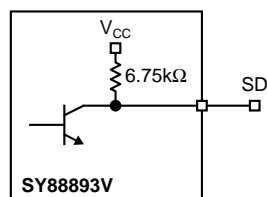

Figure 4. SD Output Structure
The SY88893V generates a chatter-free SD open-collector TTL output with internal $6.75\text{k}\Omega$ pullup resistor as shown in Figure 4. SD is used to determine that the input amplitude is large enough to be considered a valid input. SD asserts high if the input amplitude rises above the threshold set by SD_{LVL} and deasserts low otherwise. SD can be fed back to the enable (EN) input to maintain output stability under a loss of signal condition. EN deasserts the true output signal without removing the input signals. Typically 6dB SD hysteresis is provided to prevent chattering.